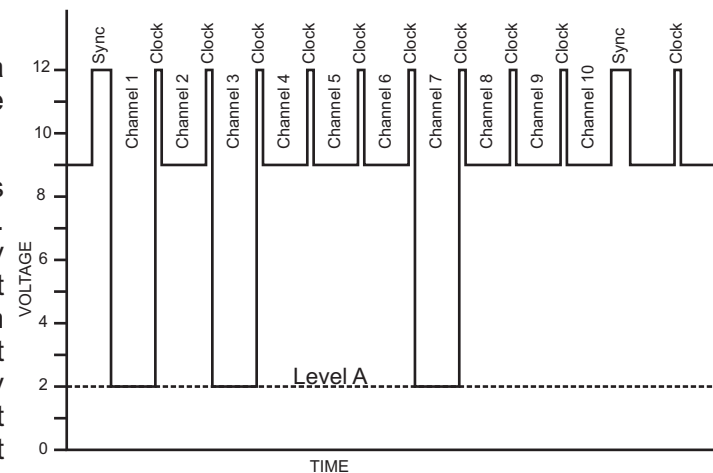

Figure 2
*Figure 2* shows what the signal would look like with inputs on channels 1, 3, and 7. These signals are called level “A” signals. They tell the latching output modules to change state from *OFF* to *ON*, or *ON* to *OFF*. The output modules respond to these signals.